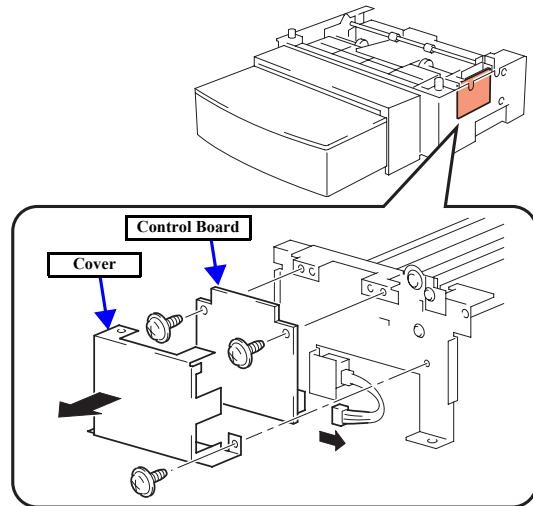

Figure 4-49. Removing the Control Board
4. Remove the one screw, disconnect the one connector, and remove the cover. (See Figure 4-49)